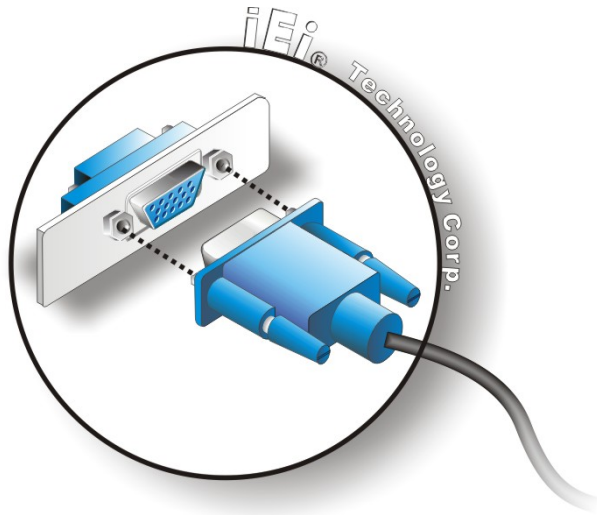

Figure 3-25: VGA Connector
- Step 3:** **Insert the VGA connector** Once the connectors are properly aligned with, insert the male connector from the VGA screen into the female connector on the TANK-800. See **Figure 3-25**.